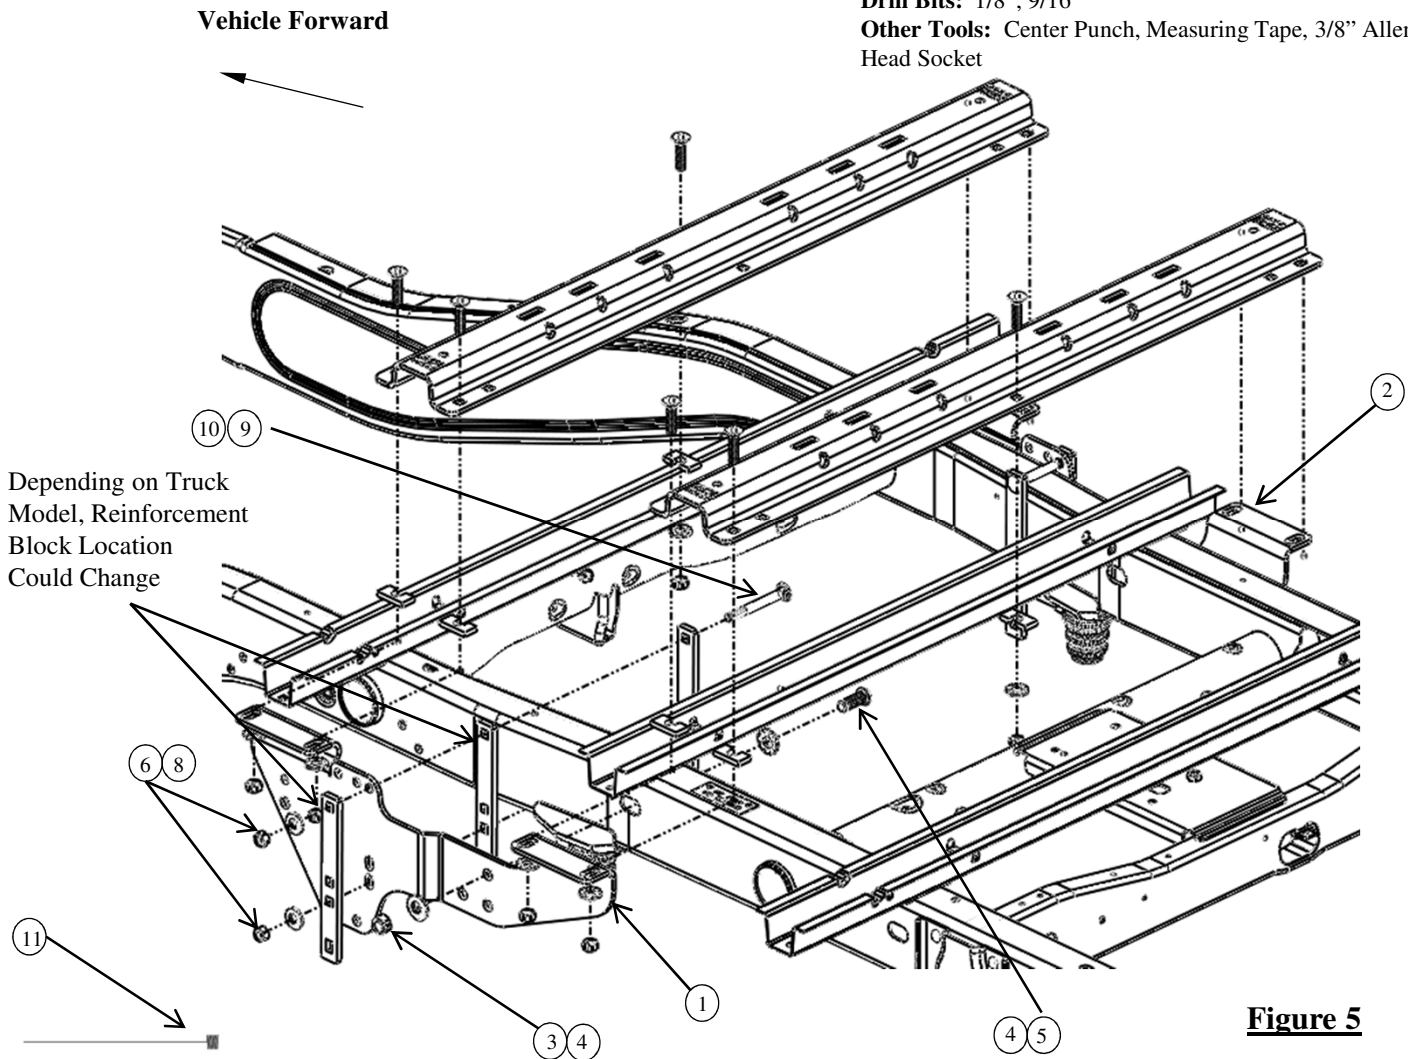

Figure 5
When installing to Figure 5 & 6, during drilling protect the fuel tank and filler tubes, brake lines and wire harness by placing a piece of metal between the box floor and potential components at risk on the driver's side. This will prevent drilling into these items.
6. Fasten the frame brackets to the vehicle frame rails as shown in Figure 5. Using the pull wire (11) thread the button head cap screw (6) and the conical washer (4) through the rearward slot, on the interior of the truck frame. Place the mounting bracket (1), conical washer (4), and the 5/8" nut(3) on and hand tighten.
7. Passing the 1/2" carriage bolts (9) through the top and middle slots in the reinforcement block (10) will create a clamping strap that will go inside the frame rail and connect to the mounting bracket (1). There are two different holes in the mounting bracket that allow for the best clamping surface to the truck frame. Changing the mounting bracket hole will allow the clamping strap to adjust to different height truck frames. Once the strap bolt have been passed through the best mounting hole thread the reinforcement block (10), 1/2" conical washer (8), and the 1/2" nut (7) on to the bolts and hand tighten.